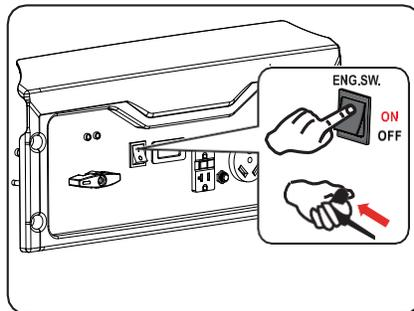

Fig 12 Recoil Start
- To start, turn the engine ON/OFF switch to the “ON” position. Pull the recoil starter grip slowly until resistance is felt, then pull rapidly. (See fig 12)